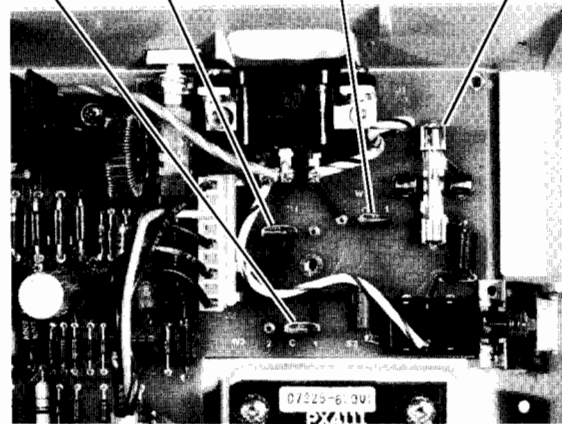
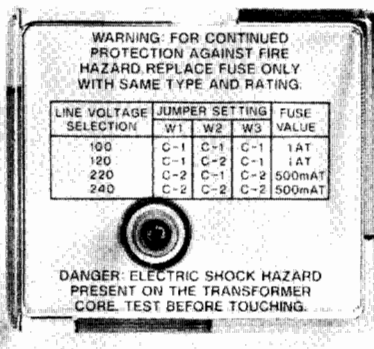

Figure 1-6. Line Voltage Jumper Identification
Figure 1-5. AC Shield Legend.
- d. Position the jumpers for the desired line voltage according to the legend on the AC shield. This legend is repeated in Figure 1-5. Figure 1-6 illustrates the jumpers positioned for 120 Vac.